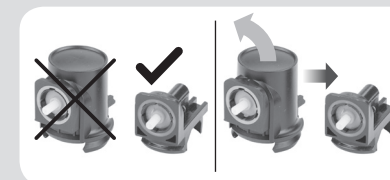

Fig. 11
Gas can connection adapter type	low (see fig.11)
- For connection to the nail gun, the gas can must be fitted with a low connection adapter shown in fig. 11. Gas cartridges from Bostitch may be supplied with a tall connecting adapter, from which you can make a short adapter by removing the top part, however this cannot be generalised as a rule and it depends on the manufacturer of the gas cartridge. It may be necessary to consult this with the seller of the gas cartridge.